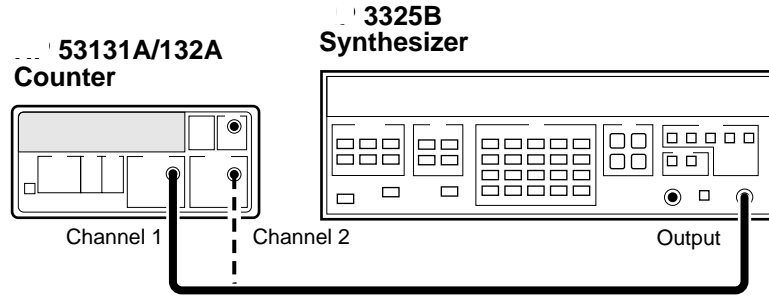

Figure 1-6. Trigger Level Test Setup
- 1 **Connect the output of the Agilent 3325B to Channel 1 of the Counter as shown in Figure 1-6.**